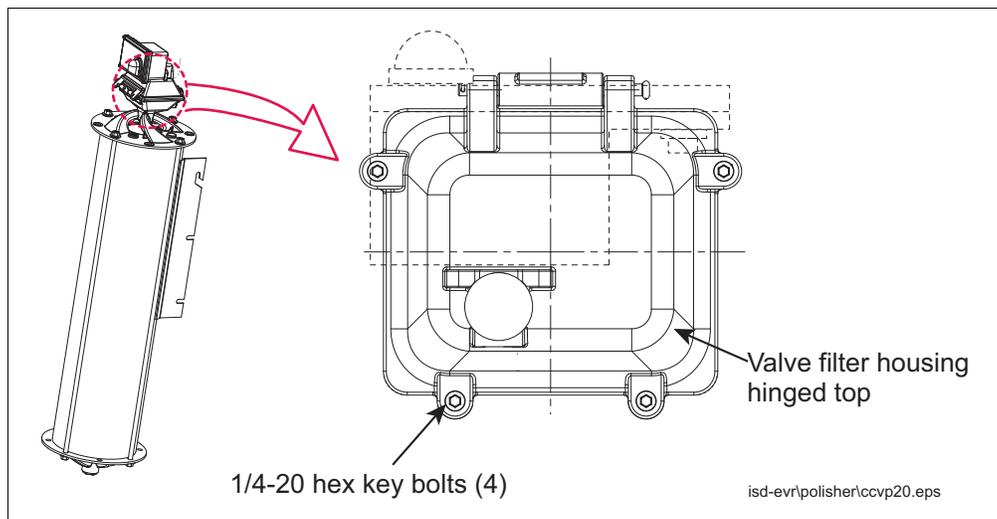

Figure 10. Accessing the valve filter and o-ring
1. Remove the four 1/4 -20 x 1" hex key bolts from the top of the Vapor Valve Filter housing (see Figure 10).